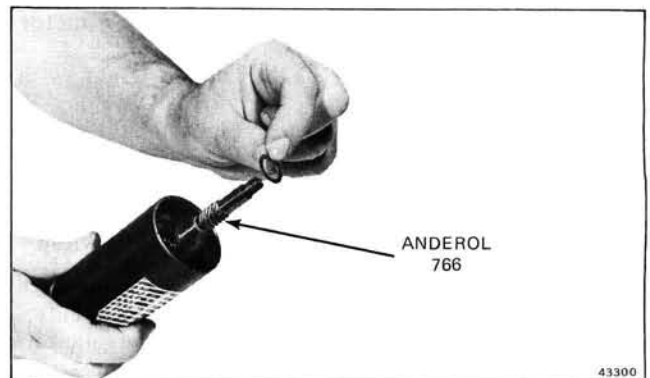

Figure 7-11. Installing Thin Washer
c. Place thin washer on armature shaft. See Figure 7-11. Place new gasket on drive end cap assembly. Install drive end cap aligning it with frame. (See alignment marks on frame and drive end cap assembly.) Secure assembly with thru-bolts and washers and torque to specifications in Section 2.